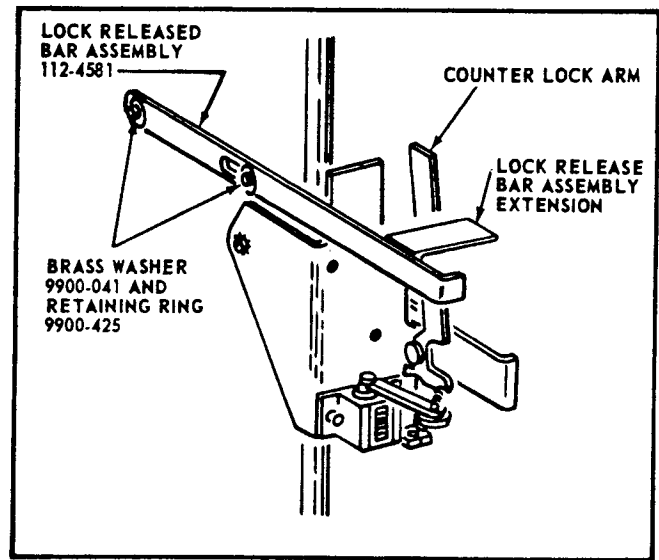

Figure 4.
10. Place the replacement Lock Release Bar Assembly, part number 112-4581, over the studs from which the Bar was removed in step 9. The Counter Lock Arm must be behind the extension on the Lock Release Bar Assembly. See Figure 4.